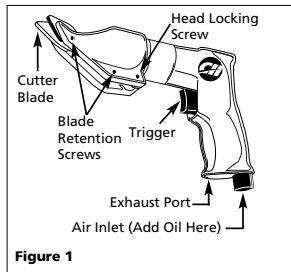

Figure 1
1. Loosen head locking screw (see Figure 1) and rotate cutting head to desired position. Retighten screw before use.
3. Press the trigger to start the cutter action (See Figure 1).
2. Remove blade retention screws (see Figure 1).